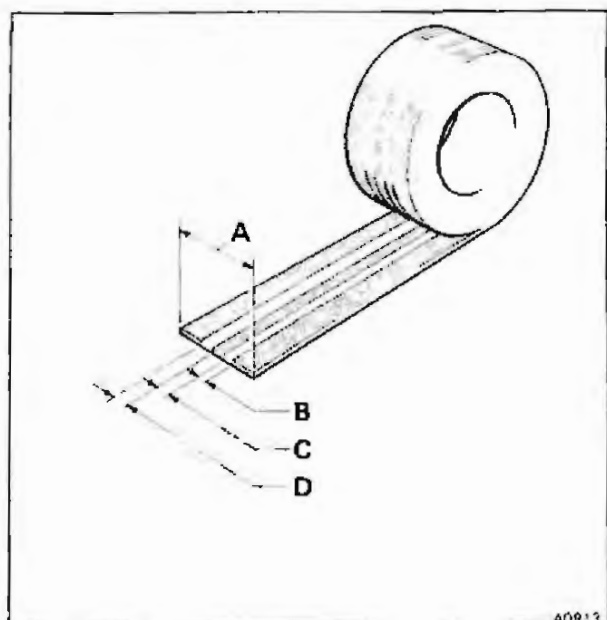

Fig. 1 RH 9845 Dual line pattern tape
- 1 RH 9845 - This produces a dual line pattern one line 15,8mm (0.062 in) the other 23,8 mm (0.093 in) wide, see figure 1 (This is the standard line size applied to the above motor cars).